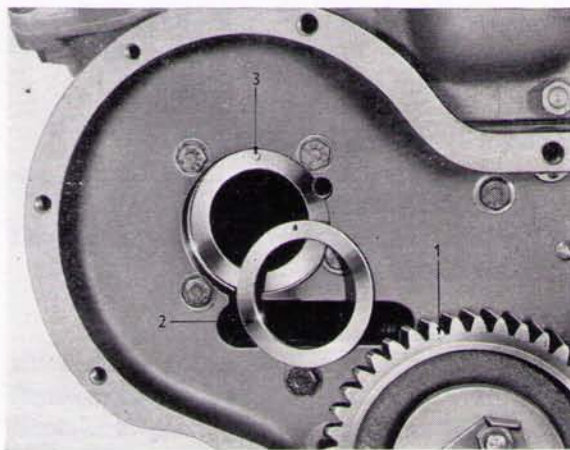

Fig. M.12.
1. Ensure that the camshaft thrust washer is correctly located in the cylinder block, the dowel in the block fitting in the corresponding hole in the thrust washer. See Fig. M.12.
The camshaft end float is taken up by a boss on the timing case cover and a thrust washer in the cylinder block. Access to the thrust washer is gained by removing the camshaft. The thrust washer may then be removed from its locating dowel (Fig. M.12).